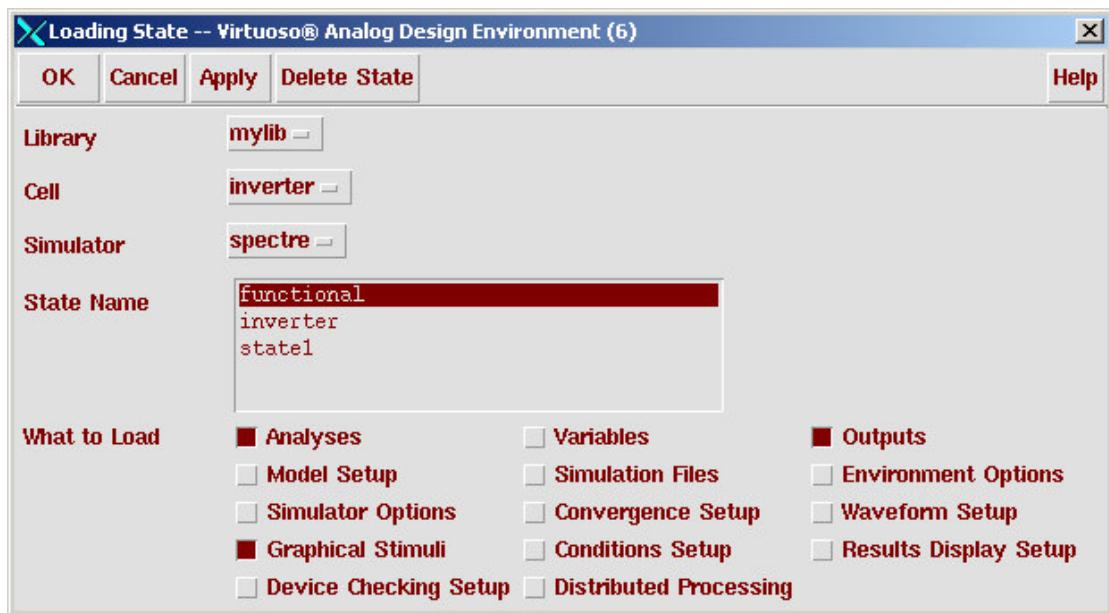

Figure 42. Setup Analog Stimuli Window
4. Verify the **State Name** is **functional** and select **ONLY Analyses**, **Graphical Stimuli**, and **Outputs** as shown in Figure 42. Click on **OK**.